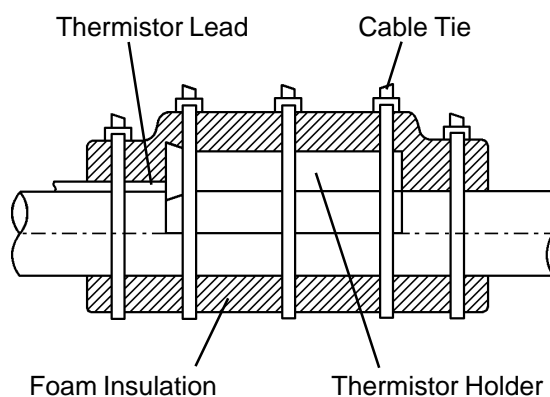

Fig. 2
- 5) Remove the Plastic Cable Ties, Foam Insulation, Thermistor Holder and Thermistor. See Fig. 2.